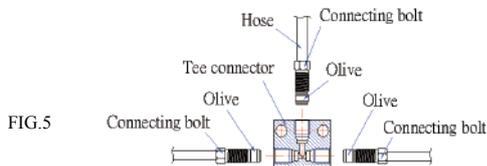

FIG.5
- 5-3. Then, tighten the hose on to the dispatch with an 8mm wrench at a torque of 6-8Nm (53.11~70.8 in.lbs). Finally, put on cover to complete. (As shown in Fig. 5)